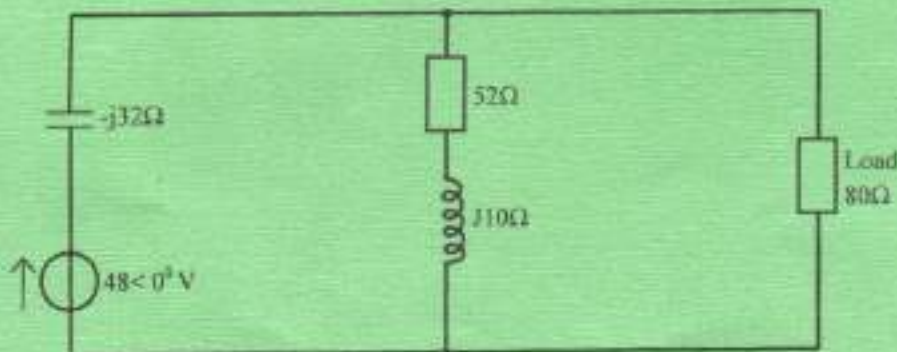

Fig. 1
- (c) Figure 1 shows an electric circuit. Using Thevenin's Theorem: